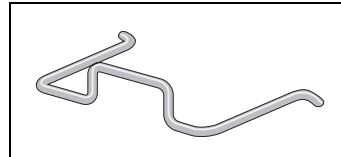

Figure 17. Power Cord Retaining Clip
1. Locate the power cord retaining clip, shown in Figure 17.